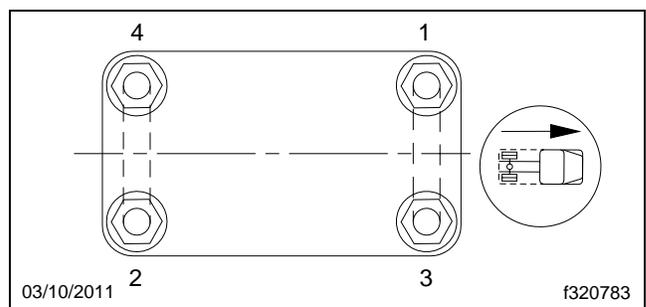

Fig. 5, Tightening Pattern for U-Bolt High Nuts
- 25.3 Fully tighten each of the U-bolts; see **Table 3** for torque values and **Fig. 5** for the tightening pattern.